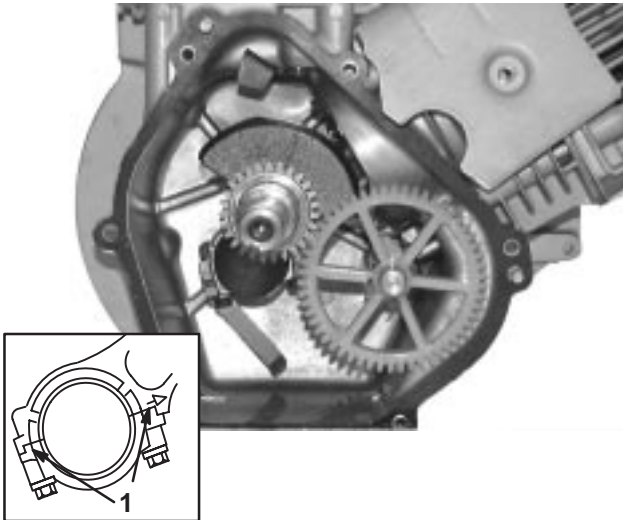

Fig. 129 – Rod and Cap Alignment
- Pull connecting rod against crankpin and install rod cap with match marks aligned, Fig. 129.